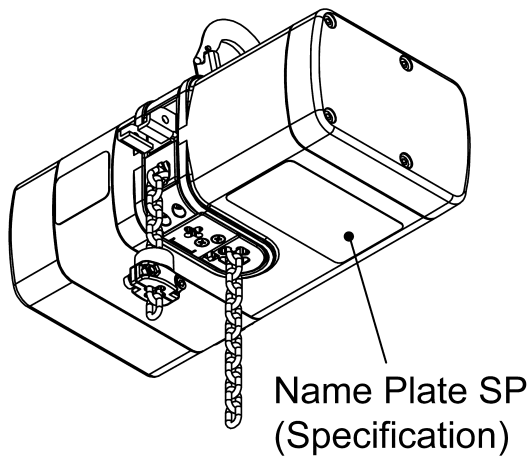

Figure 2-1 Identifying TEM verses TSEM Models
- 2.1.2 TEM and TSEM Models - Harrington TEM series hoists are available in both three phase and single phase power. The TEM model is the 3 phase version and the TSEM model is the 1 phase version. Refer to Nameplate SP to verify the model by referencing the product code and voltage requirements. (See **Figure 2-1**)